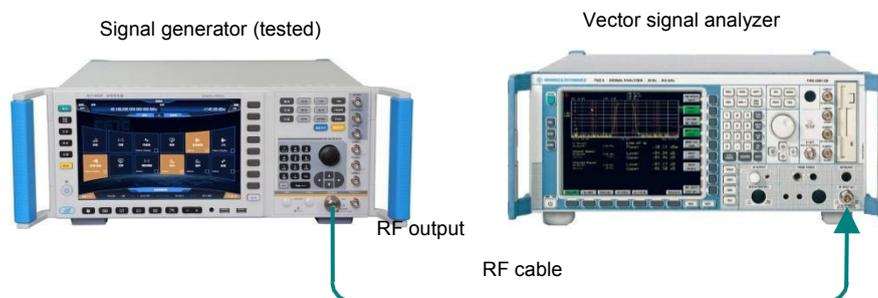

Fig.7.9 EVM and Original Offset Test
**Step 1. Power on and reset it, and warm it up for at least 30 minutes. Step 2. Connect the device as shown in Fig.7.9.**
The same as the Fig.7.9